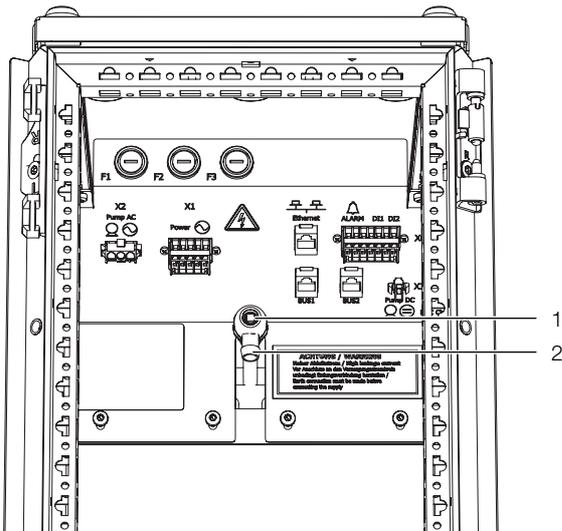

Fig. 88: Bleeding the air from the heat exchanger
- Connect the drainage hose, included with the accessories, on the top at the vent valve on the plug connector (fig. 88, item 2).
- Open the vent valve (fig. 88, item 1) with the square key supplied.